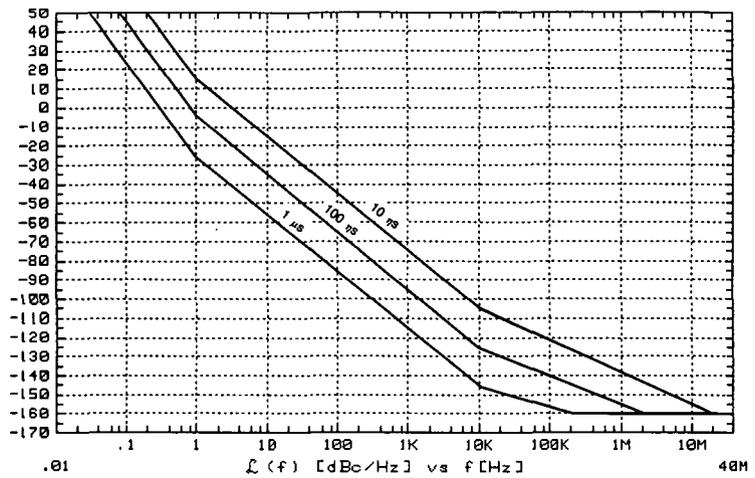

Figure 3-26. Discriminator Noise Floor as a Function of Delay Time.
1. **Determine the delay necessary to provide a discriminator noise floor that is below the expected noise level of the DUT.** Figure 3-26 shows the noise floor of the Discriminator for given delay times (τ). (The noise floor provided by 10 ns of delay is adequate for measuring the internal 350-500 MHz oscillator.)